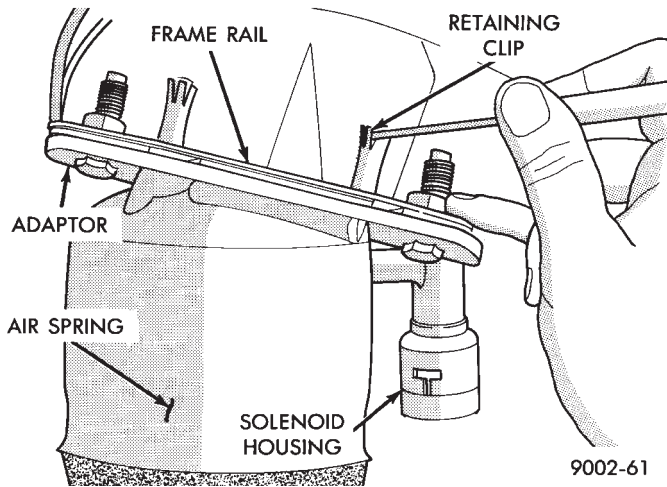

Fig. 18 Release Retaining Clips
- (1) Disconnect battery negative cable, hoist vehicle and remove wheel and tire assembly.
- (2) See AIR LINES AND FITTINGS and disconnect air line and electrical connector from solenoid.
- (3) See SOLENOIDS (STRUT AND AIR SPRINGS) and vent air from spring. Remove solenoid.
- (4) Release upper air spring alignment/retainer clips. (Fig. 18)